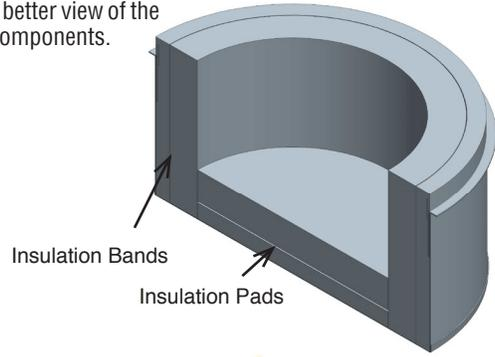

Figure 39b: Tee Cap Step 4-5
- 4-Then add the insulation pads at the bottom of the casing, in the middle of the insulation wrap. See **Figure 39b**.